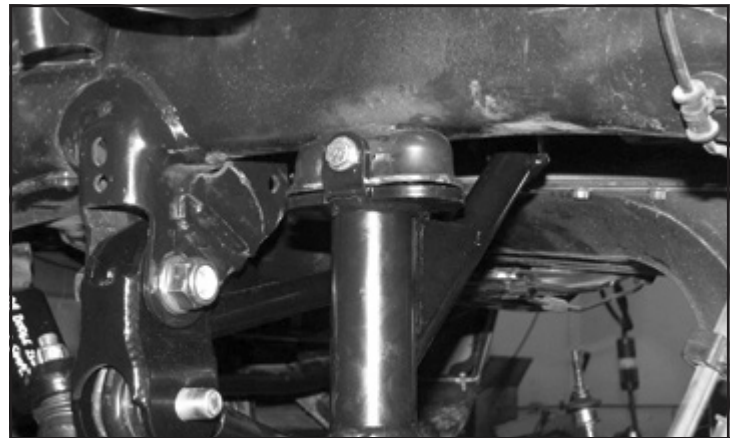

FIGURE 24 - STEP 29
29. Locate a 5/16"-18 x 2-1/2" bolt, nut and washers. Using this bolt, secure the bump stop to the factory bump stop mount and torque to 29 ft-lbs. **SEE FIGURE 24**